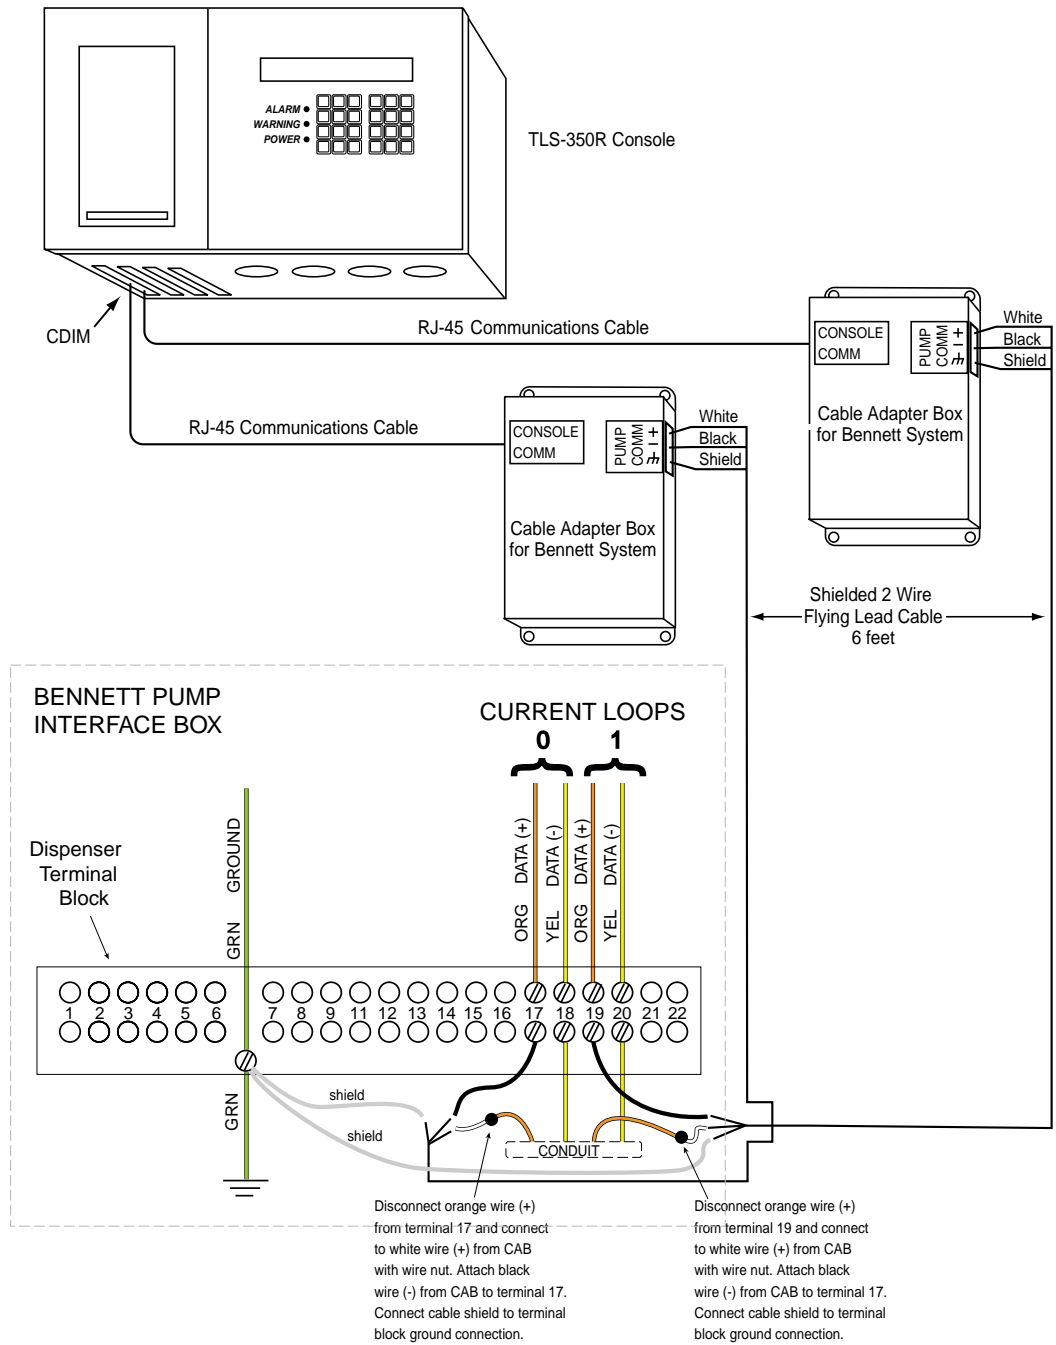

Figure 6. Example Bennett Pump Fuelomat Installation Diagram
- Bennett Pump Interface Box - Fuelomat (see Figure 6).